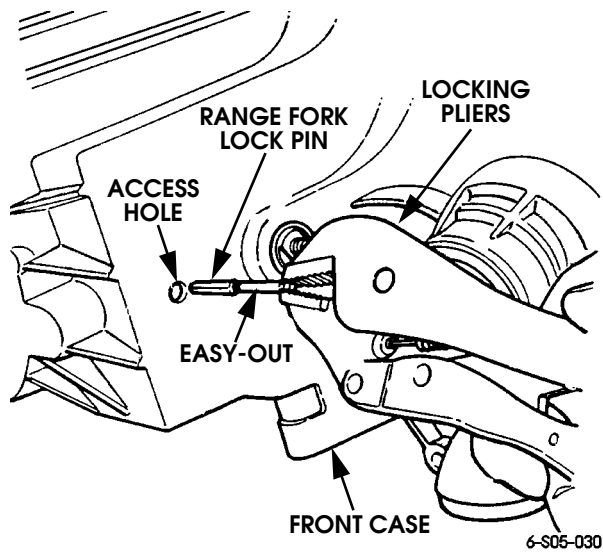

Figure 5-97: Removing Low Range Fork Lock Pin
17. Remove low range fork lock pin with #1 or #2 easyout (Figure 5-97). Seat easyout in pin. Then withdraw pin with locking pliers using a twisting motion.